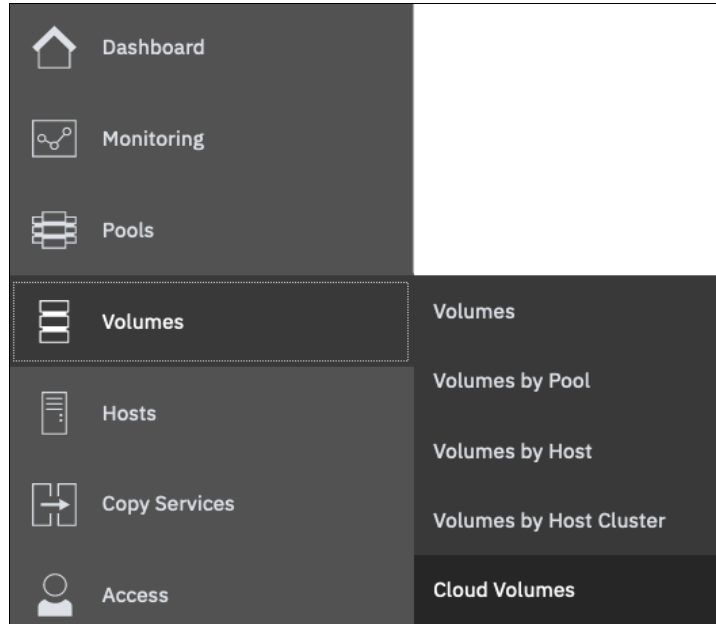

Figure 10-70 Cloud Volumes menu
1. Click **Volumes** → **Cloud Volumes**, as shown in Figure 10-70.